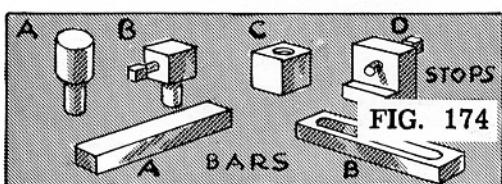
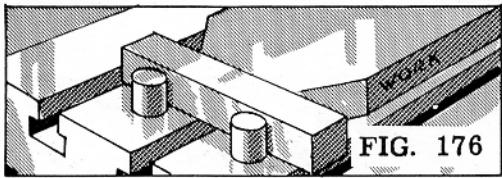

FIG. 174
FIG. 176
3. Select two stops from each of the types illustrated in Figure 174 at (A), (B), (C), and (D); a bar A, and a bar B.
6. Insert a bar between the stops and the contacting surface of the work if the width of the work is too narrow to catch against the two stops (Fig. 176). For an unfinished or an uneven surface, the stops (B) (Fig. 174) are more practical because the screws can be adjusted.